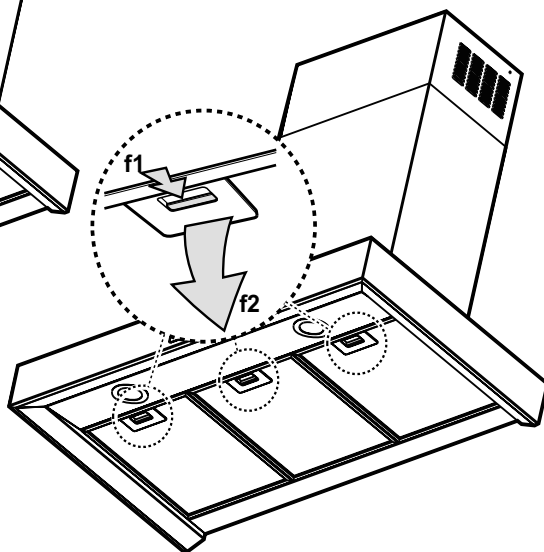

Fig. 2
Grease Filters (see Fig.2)
Carbon Filters (see Figs.2 and 3)
- b. Remove the grease filters (Fig. 2).